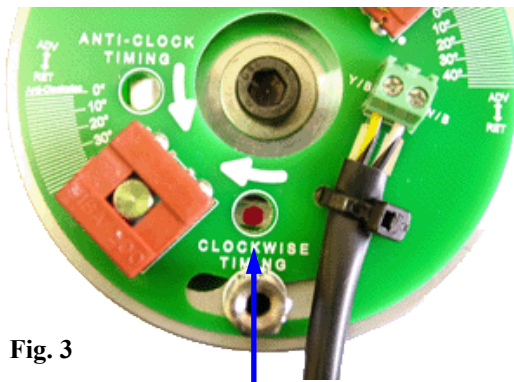

Fig. 3
21. Hold the ignition trigger assembly in the contact-breaker housing, positioned midway on its adjustment slots (the slots will normally be positioned at approximately 6 and 12 o'clock). Turn the magnetic rotor by hand until the red indicator dot aligns under the appropriate static timing hole in the trigger. This must be done without turning the engine. The appropriate timing hole is determined by the direction of rotation of the camshaft. The timing holes are marked on the trigger “Clockwise Timing” & “Anti-Clock Timing”. See figs. 3 & 4 (page 9). To determine the correct timing hole for your machine, see Table 1 (page 8).